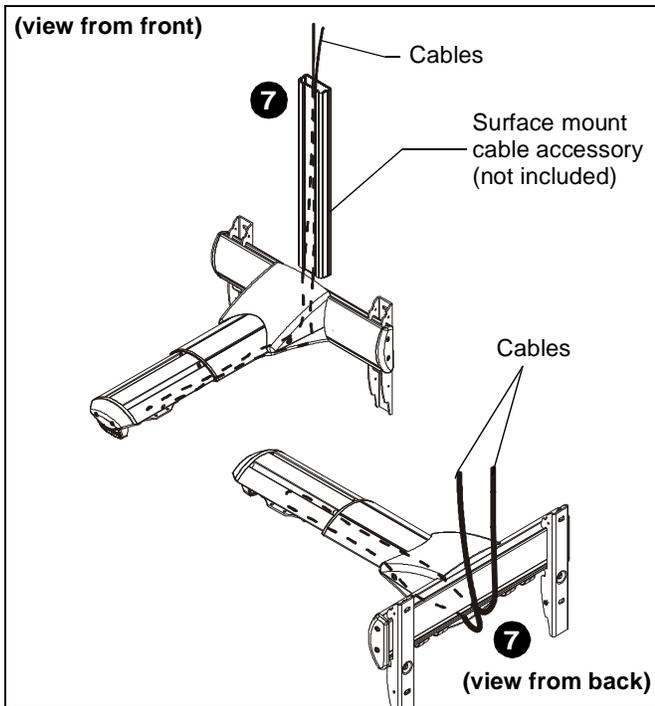

Figure 28
7. Thread cables down through a surface mount cable accessory (not included), then behind and into the wall bracket. (See Figure 28) **Proceed to Step 8**